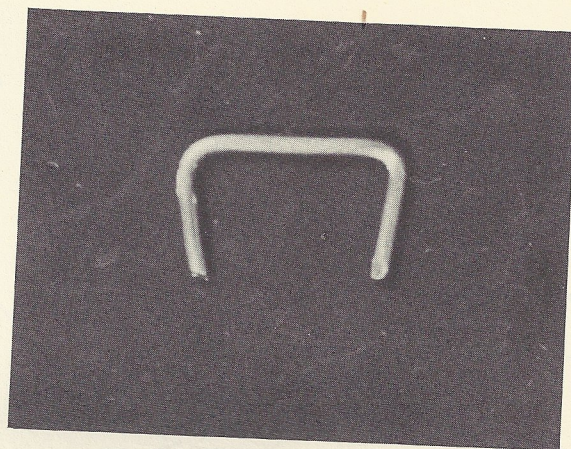

Fig. 5-4
Step 2. Bend one of these lengths as shown in Fig. 5-4.